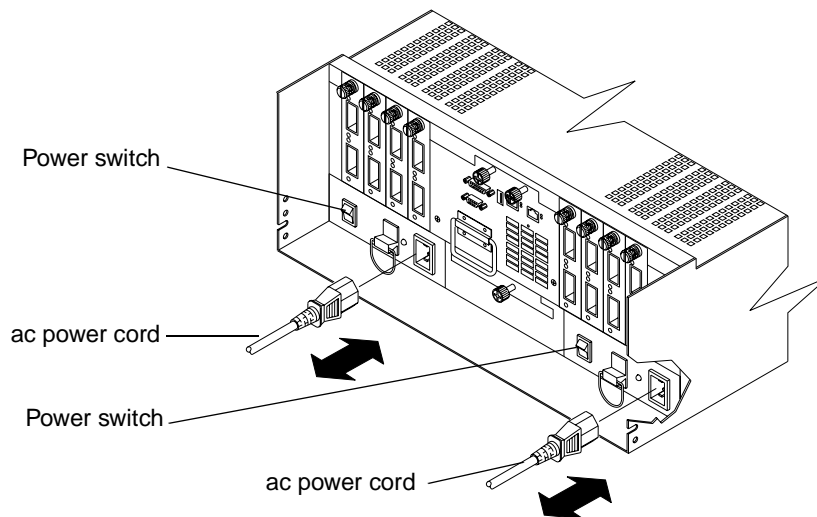

Figure 8. Turning on and off the power
Turn on both power switches on the back of the controller unit (see Figure 8). You must turn on both switches to take advantage of the redundant power supplies. Then, go to "Checking the indicator lights" on page 15.
- 2 Turn off the power switches on the back of the controller unit (see Figure 8 on page 12).